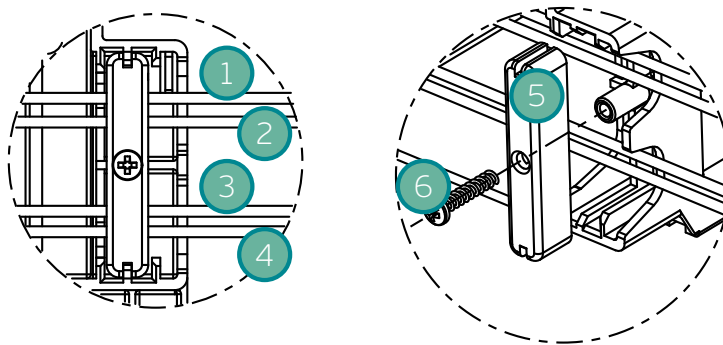

Figure 3.2: Cord relief assembly
3. The cables must pass through the cord relief as shown in Figure 3.2.
- The screw shown in Figure 3.2 must be fixed with a torque within 0.8 - 1.2 Nm.